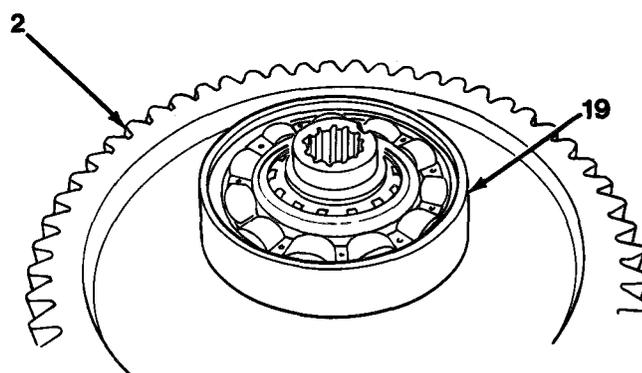

Figure 11-6
15. Using a puller, remove bearing (19) from clutch shaft assembly (2, Figure 11-6).